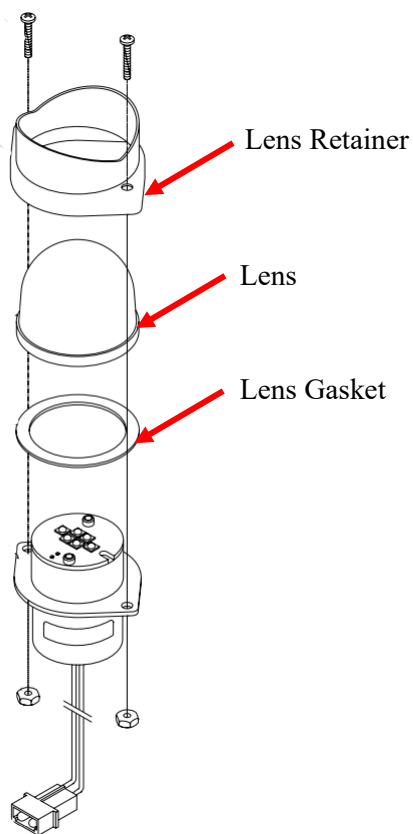

Figure 47-16
14. Attach Whelen LED light 7155402 to previous location. See Figure 47-16.